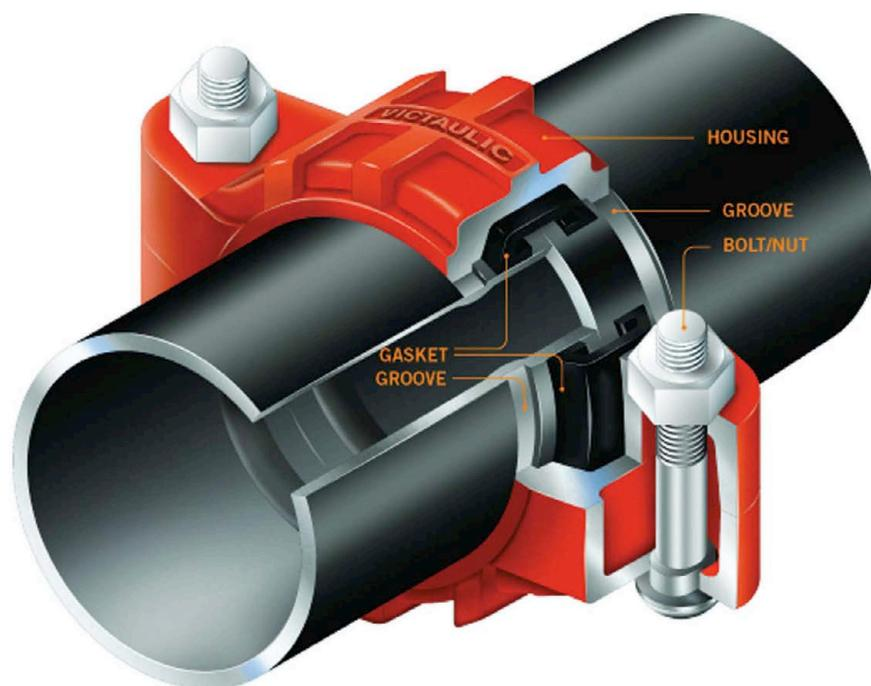

Figure 1: Anatomy of a grooved connection
Figure 1: Comparison between the existing design curve and the fatigue strength of the advanced ship structures: post-cut treated corner of balcony opening (3) (left) and high-quality butt joint in thin plate (right) (4-5)
The design of a grooved mechanical pipe joint (shown in figure 1) overcomes these performance issues. A groove is first formed in the pipe end and the piping connection is secured by a coupling which houses a resilient, pressure-responsive elastomer gasket. The